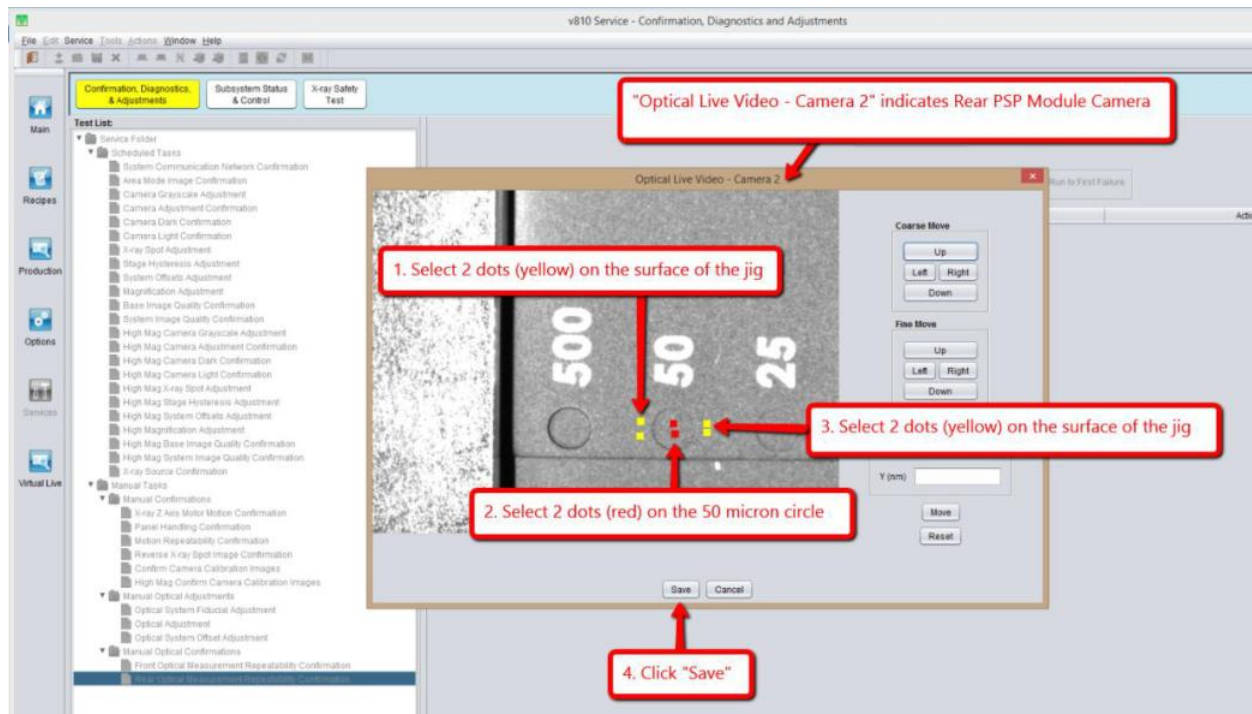

Figure 42 Adjustment Points
32. Select particular points as indicated in Figure 42. Total of 6 points require to be select as shown in the Figure 42.